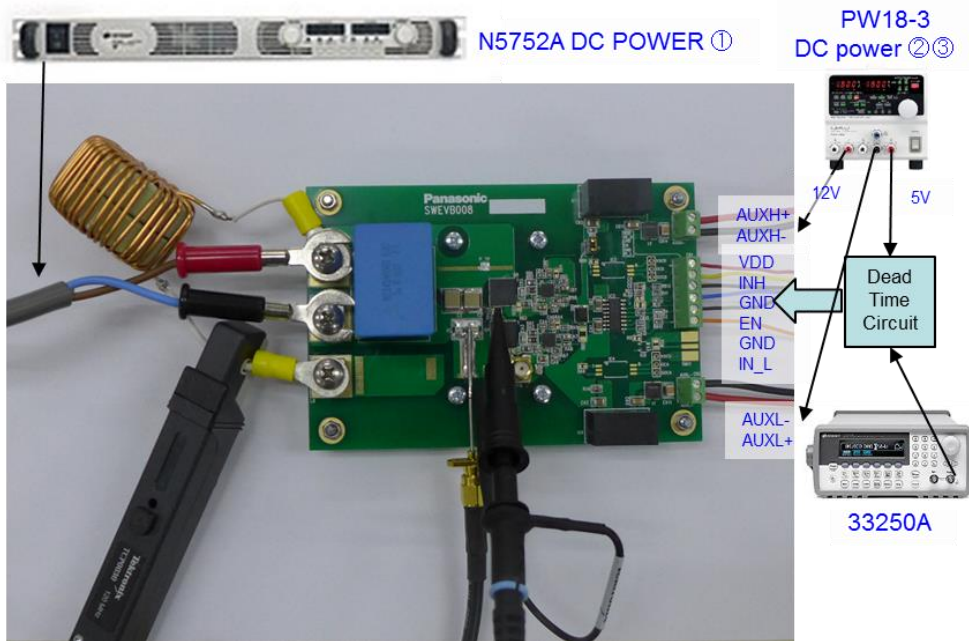
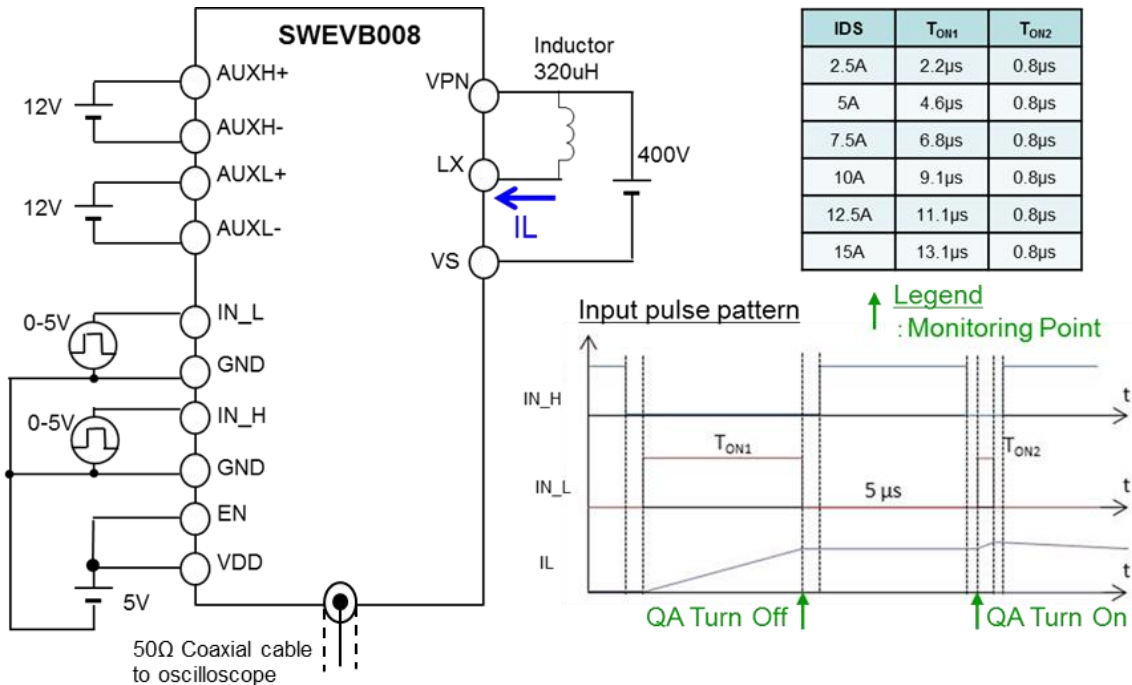

Figure 29: Connection for Low side switching loss test
Figure 30: Test Circuit for Low side GaN switching loss test
Figure 30 shows all the necessary connections for Low Side GaN device (QA) Switching Loss testing. Figure 29 shows the evaluation test circuit. Please refer to page 17 for details and evaluation procedures.